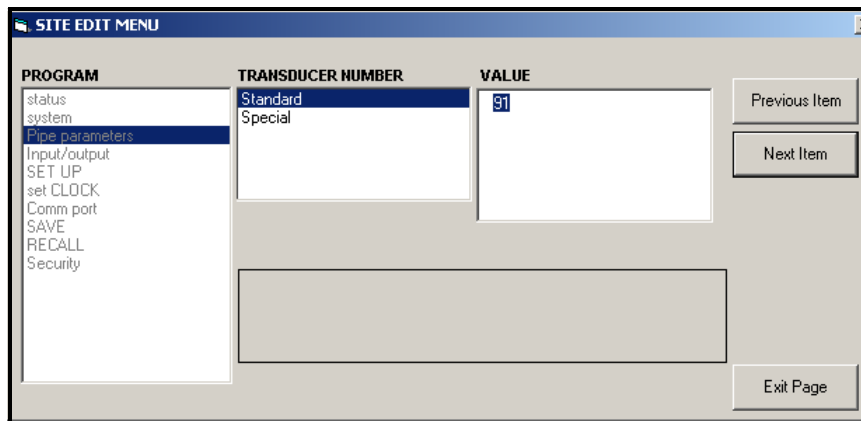

Figure 38: Pipe Parameters Option in Site Edit Menu
- a. Highlight and double-click on the desired option in the left pane. Figure 38 below shows the first entry (Transducer Number) in the *Pipe parameters* option. The title above the center pane lists the current entry, while the center pane displays the available selections for that entry.